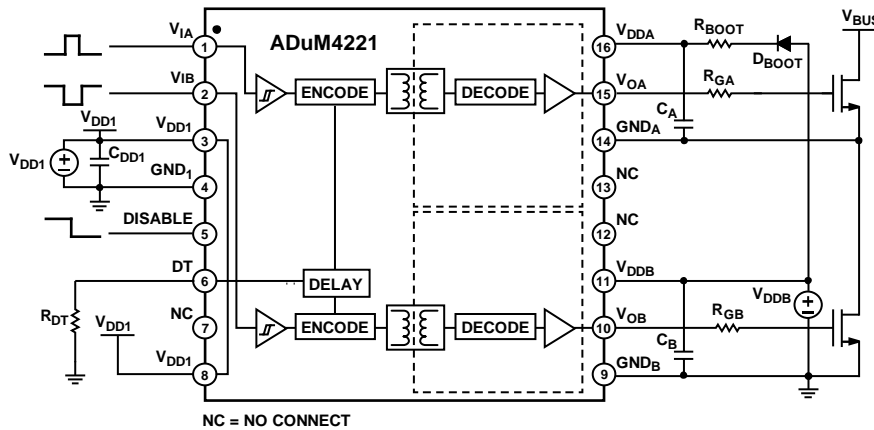

Figure 34. Bootstrapped, Half Bridge Operation Circuit for the ADuM4221
The ADuM4221/ADuM4221-1 include overlap protection such that the gate driver outputs (V_{OA} and V_{OB}) cannot simultaneously go high even if both inputs are high. Additionally, the ADuM4221/ADuM4221-1 also have a dead time control pin (DT) that can adjust the delay between the output high-side and low-side transitions by using a single resistor between the DT pin and ground (see Figure 34). The relationship between R_{DT} and the obtained dead time is shown in Figure 31.
One method to reduce power supplies is to use a bootstrapped configuration for the high-side supply of the ADuM4221 (see Figure 34). A similar setup can also be obtained for the ADuM4221-1. In this topology, the decoupling capacitor (C_A)
Note that in Figure 34, D_{BOOT} is the bootstrapped diode, C_{DD1} is the decoupling capacitor on the input side, and C_B is the decoupling capacitor for the driver low-side supply.